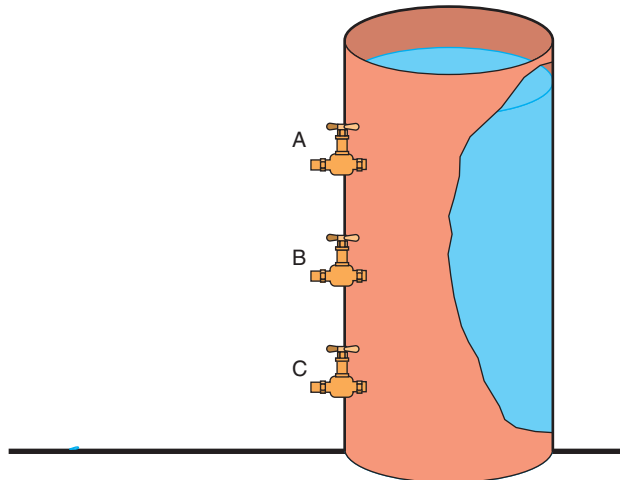

Figure 4.6
- In the diagram below (Figure 4.6), at which point A, B or C is the pressure the greatest?